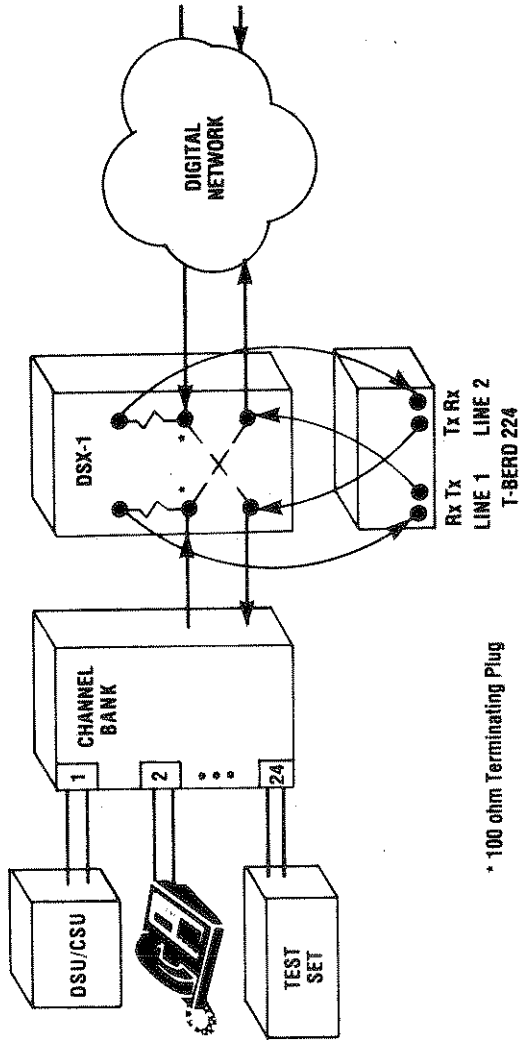

Figure 4-4
Figure 4-4 illustrates the test set-up for inserting a 1004 Hz tone on a voice frequency (VF) channel. Perform the procedure in Table 4-6 to test and collect the results when inserting a 1004 Hz tone into a voice channel within a T1 circuit.